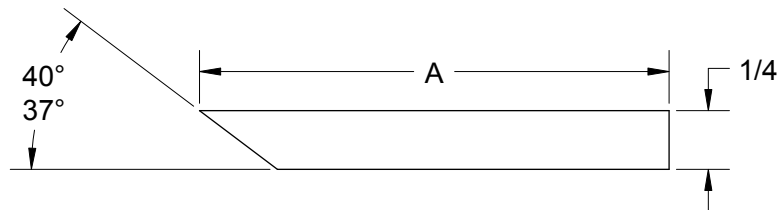

Figure 4
- d) Lay the knife down on the knife shelf. Insure the knife is installed with the **cutting angle edge facing down** as shown in Figure 4. Loosely install the four knife clamps with the eight knife mounting bolts. Tighten the mounting bolts just enough to hold the knife in position while still allowing it to be moved.